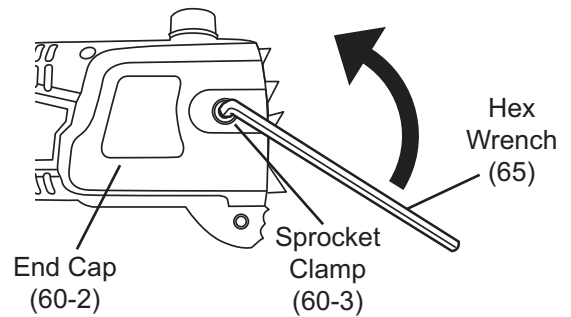

Figure 1
2. Use Hex Wrench (65) to remove the Sprocket Clamp (60-3) and End Cap (60-2). See Figure 1, right.